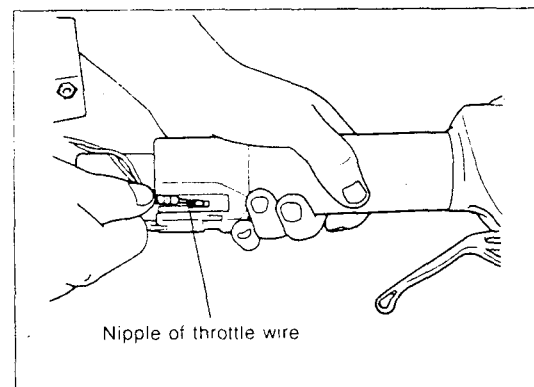

Fig. 32
1. Insert the nipple of the throttle wire through the square hole in the grip until it fits into an inner square hole in the moving part which is inside the grip. The nipple should move when the throttle lever is squeezed (Fig. 32).